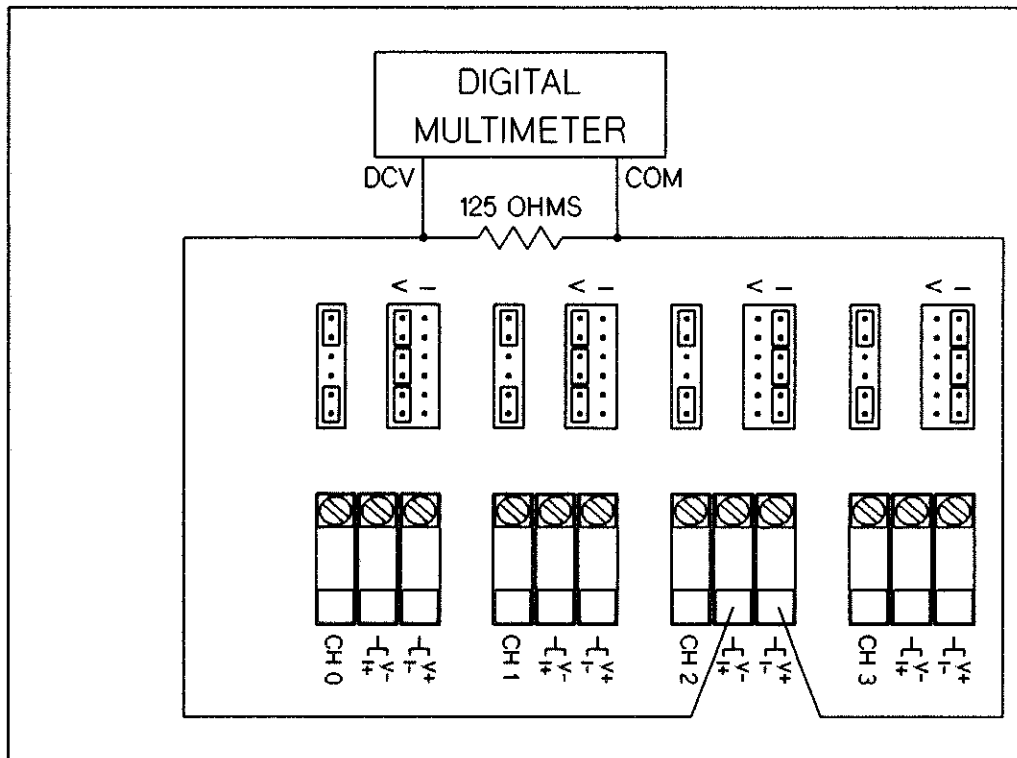

Figure 15-14 HP 44727A/B/C Load Regulation Low Connection
2. Set the multimeter to measure dc volts. On the test fixture, connect the multimeter DCV input to the I+ connection and connect the COM input to the I- connection of the channel to be tested. Connect the 125 ohm resistor across the channel's I+ and I- connections. The connections are shown in Figure 15-14.